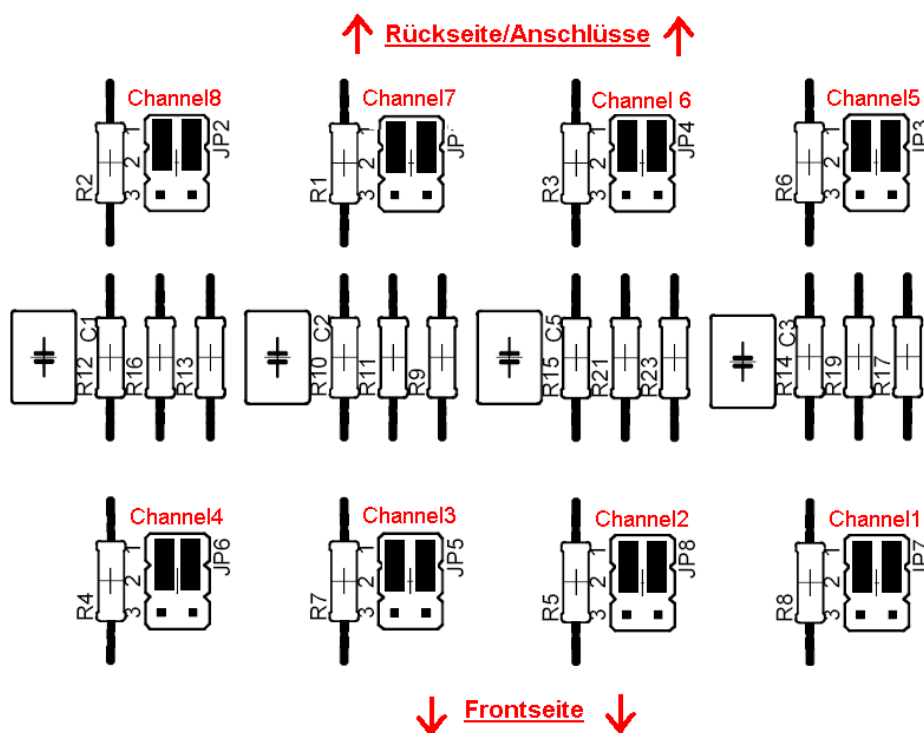

Figure 8: Jumper positions of the delivery state
- Get the jumpers in their desired position (see fig. 8+9)
Both jumpers of the analog inputs 1-8 (channel 1-8) are set at **PIN 1+2** (see fig. 8).